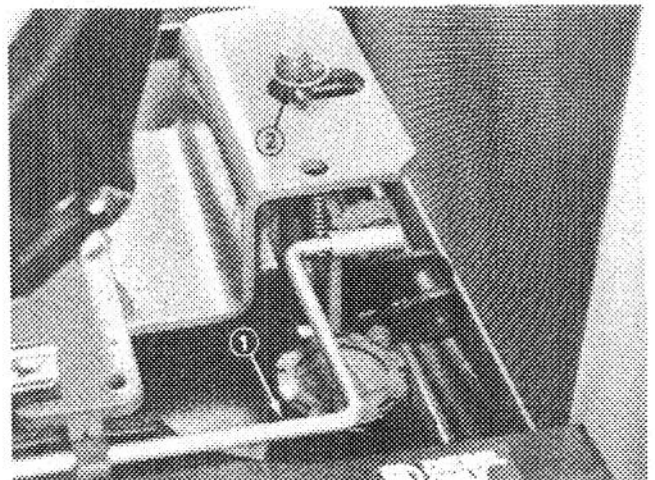

Figure 17
6. Disengage seat support rod and slide it into retaining clips (Fig. 17). Pivot seat down and push lynch pin through seat latch stud. Flip wire end of pin over latch stud (Fig. 17).